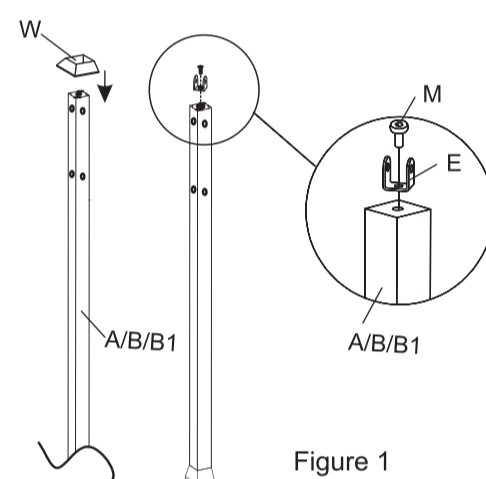

Figure 1
Slide the four Leg Caps (W) onto the each Pillar (A/B/B1). Attach the U-Shape Connector (E) to the top end of each Pillar (A/B/B1), using Bolt (M). Repeat this step 4 times as shown in Figure 1.